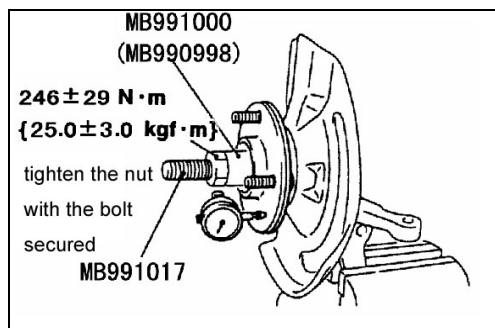

Fig.12-18
(3) Hub axial play check(see Fig.12-18)